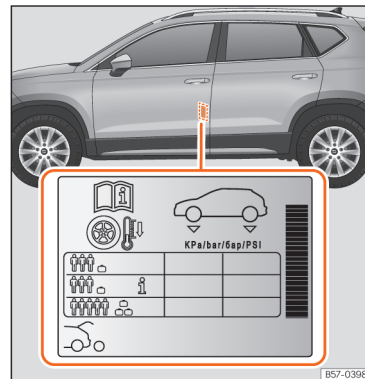

Fig. 227 Location of the tyre pressure sticker.
- Adjust tyre pressure to the load being carried by the vehicle »» **Fig. 227**.
The tyre inflation pressures are listed on a sticker on the rear of the front left door frame »» Fig. 227.
Depending on the vehicle, tyre pressure can be adjusted to medium load to improve driving comfort (tyre pressure **i**) »» Fig. 227). When driving with comfort tyre pressure fuel consumption may increase slightly.
The tyre pressure must be adjusted according to the load the vehicle is carrying. If the vehicle is going to carry the maximum load, the tyre pressure should be increased to the maximum value indicated on the sticker »» Fig. 227.
In the case of a minimised temporary spare wheel (**l**), inflate to a pressure of 4.2 bar as indicated on the tyre pressure label »» Fig. 227.
ded tyre pressure is indicated on the label »» Fig. 227.
- **When the tyres are cold, tyre pressure should be that indicated on the label »» Fig. 227.**